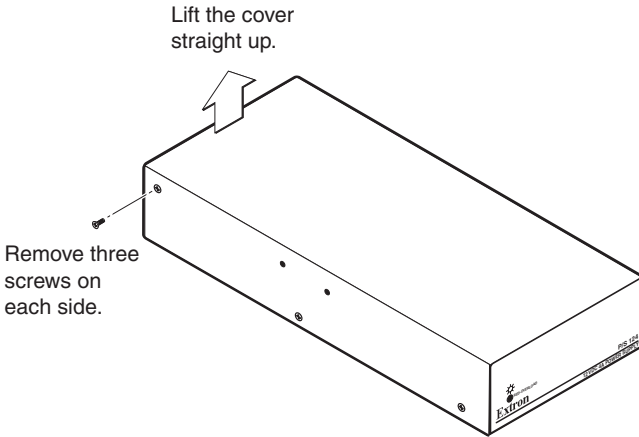

Figure 5 — Removing the top cover
3. Remove and retain the six screws that attach the top cover of the PS 124 to the chassis (figure 5).
15. Use the screws removed in step 3 to fasten the top cover of the PS 124 back onto the chassis (figure 5).